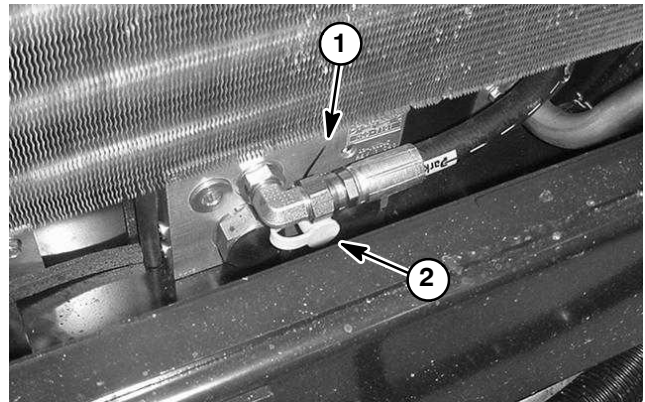

Figure 34
3. Connect a 1000 PSI gauge to test port on 2WD/4WD control manifold under radiator (Fig. 34).